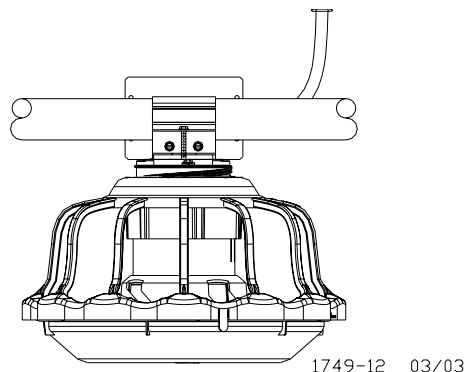

Figure 70 Installing the Sensor Plus Mid Line Control
- a. Assemble the Mid-Line Control over the outlet hole in Tube as shown in **Figure 70**.